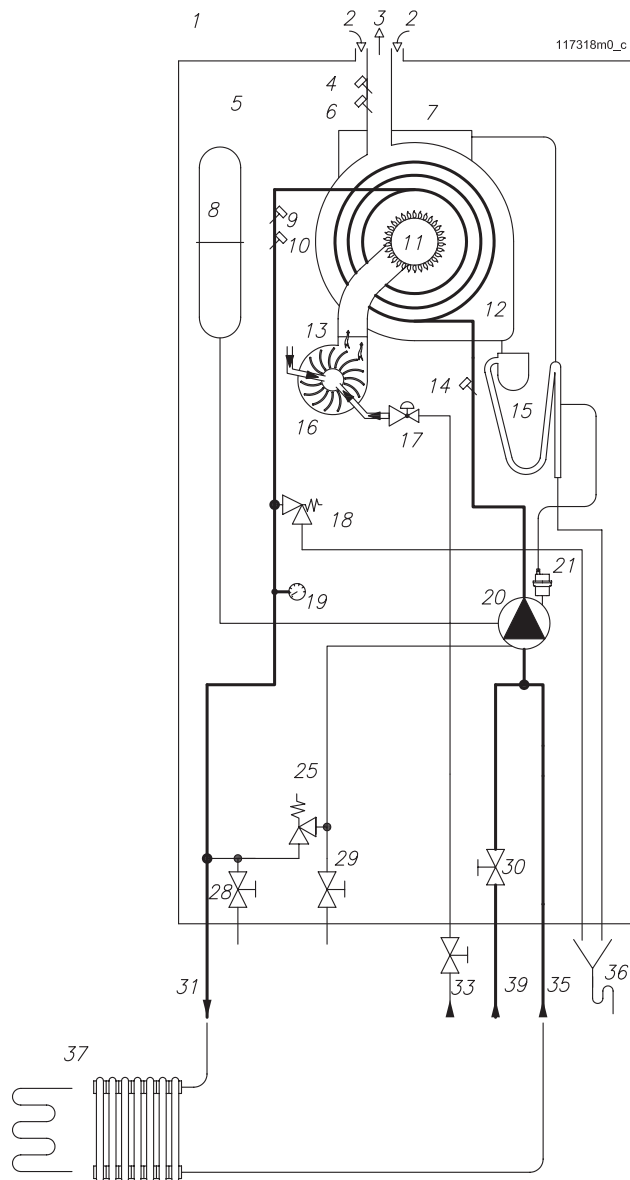

Figure 4.3 - Hydraulic layout
C) - MYDENS -- "C". With this boiler it is possible to realise a plant for central heating only with the heating elements operating at a temperature between 30°C and 80°C. An example of this type of plant is given in fig. 4.3.